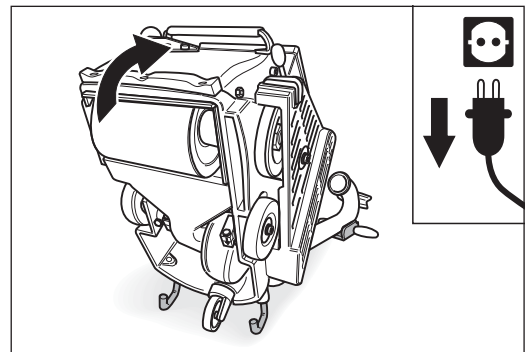

Fig. 98 Tilt the machine backwards. **Ensure that the machine is standing securely!**
- 3 Tilt the machine backwards over the safety guards (Fig. 98). **Ensure that the machine is standing securely!**